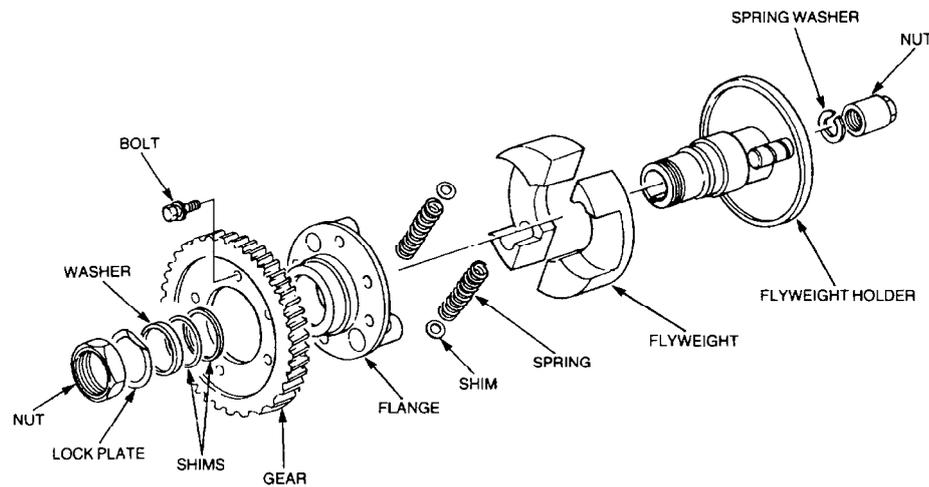

Figure 131 Automatic Timer Exploded View
- b. Remove the bolts and lock-washers securing the drive gear to the timer assembly and remove the drive gear (Figure 131).